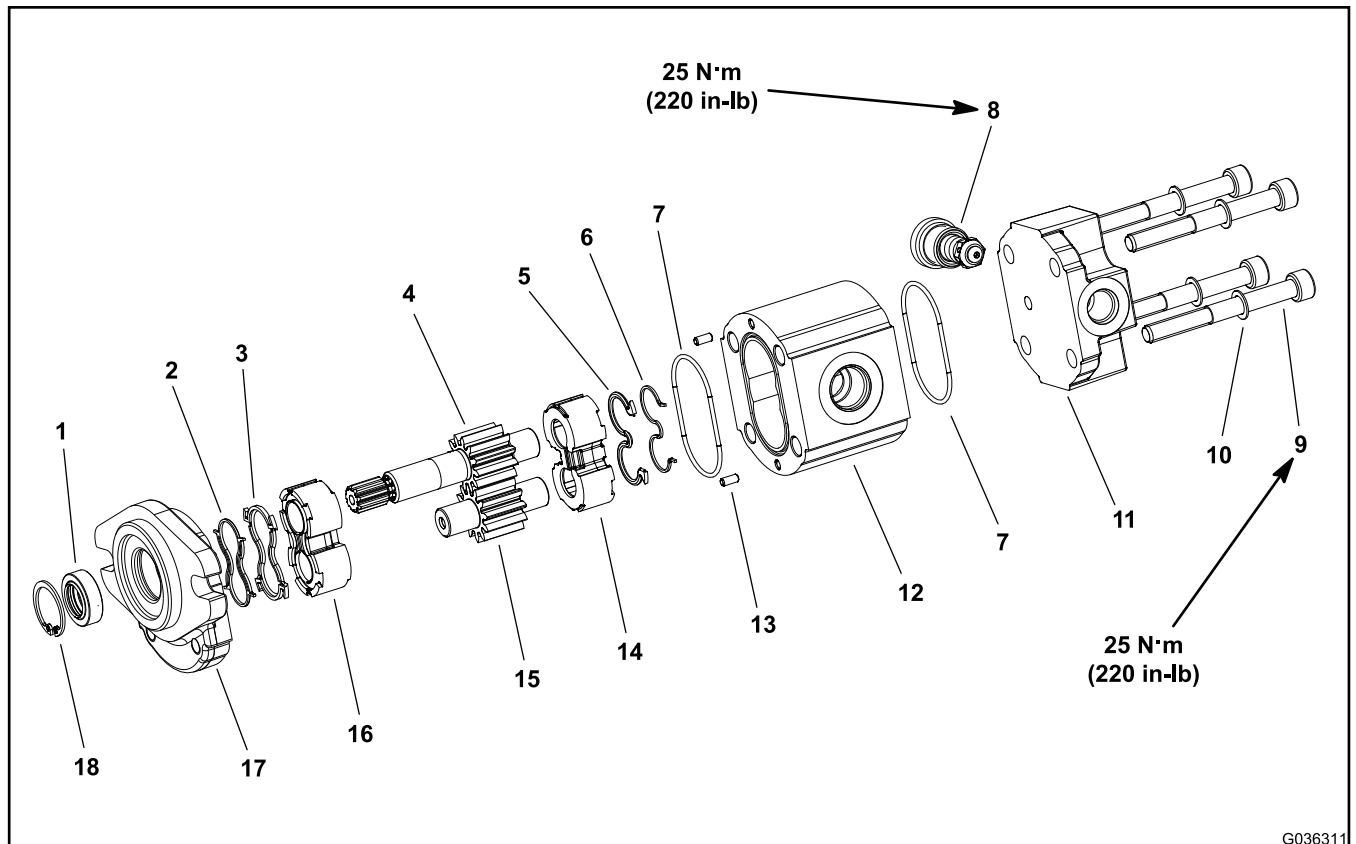

Figure 137
5. Remove the pump from the vise, and remove the 4 socket-head screws (item 9 in Figure 137) and 4 lock washers.
7. Locate and remove the 2 dowel pins (item 13 in Figure 137) from the body.
17. Install the 4 socket-head screws (item 9 in Figure 137) with the 4 lock washers and tighten them by hand.